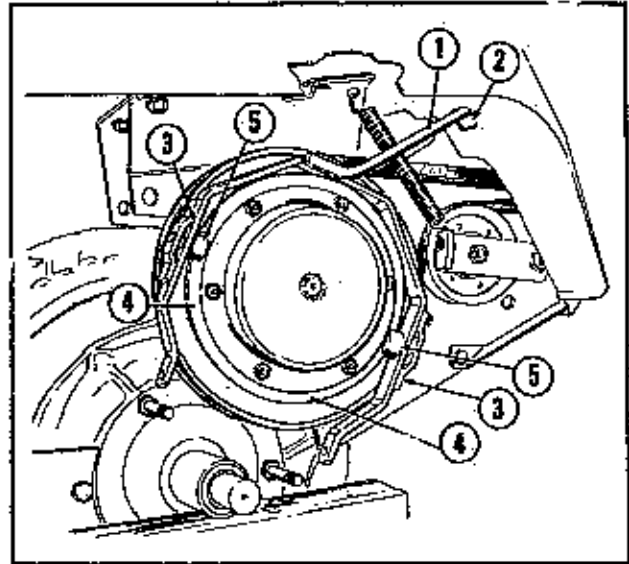

Figure 9
4. Insert the shifter yoke handle #1, Fig. 9, through the hole #2 Fig. 9, in the seat support. Assemble the shifter yoke #3, Fig. 9, to the narrow rim of the gear cover assembly, #4, Fig. 9. Slide the two slotted-shift pivots #5, Fig. 9, into position astride the flanged gear cover assembly.